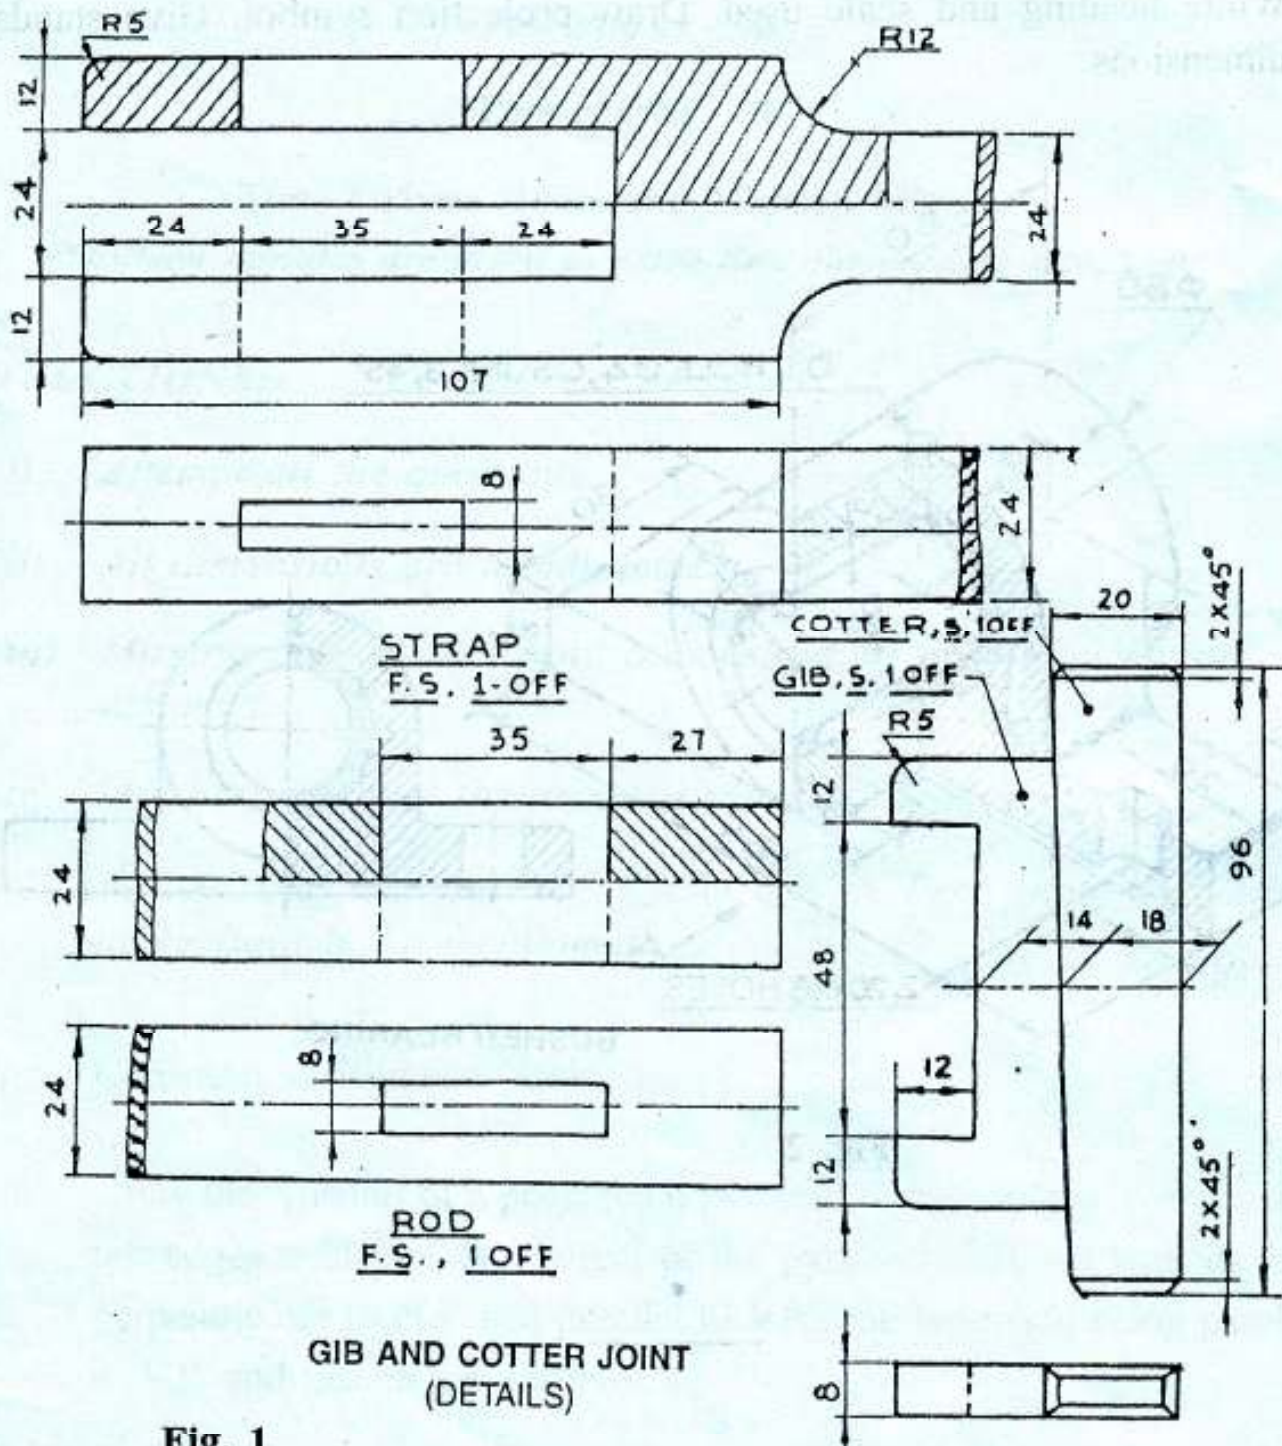

Fig. 1
3. Fig. 1 shows the details of a Gib and Cotter joint. Assemble the parts correctly and draw the following views to scale 1:1.